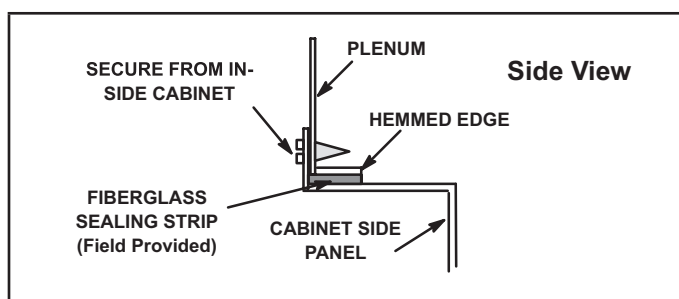

FIGURE 10
- 4 - In closet installations, it may be impossible to install sheet metal screws from the outside. In this case, make plenum with a removable front and install screws from the inside. See FIGURE 10.